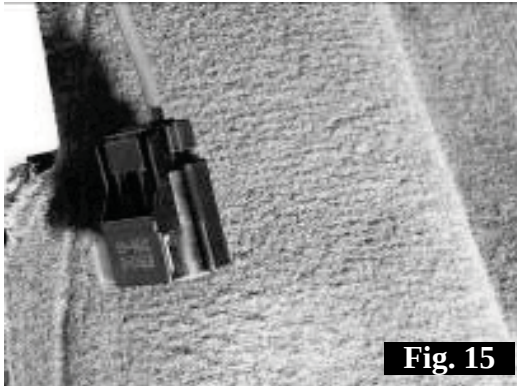

Fig. 15
24. Install the supplied two pin connector by inserting the terminals on the end of the power wire into the back of the connector until it clicks and locks. Fig. 15